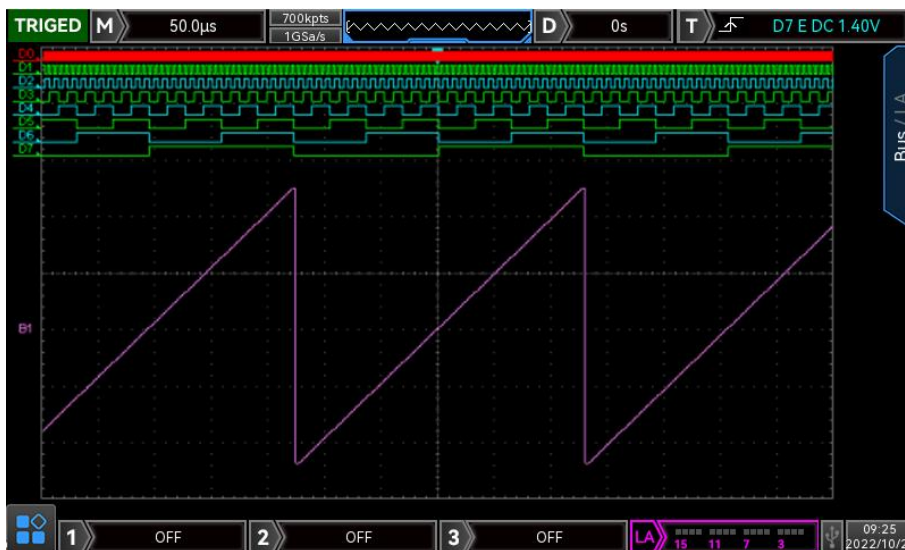

Figure 16-1
- (1) Bus: It can be "BUS1" or "BUS2".
- (2) Bus status: Turn on/off data bus.
- (3) Quick selection: Select the corresponding channel group of BUS1 or BUS2, which can be D0-D7, D8-D15, D0-D15 or None.
- (4) Bit: Select the corresponding channel bit of the bus, which can be D0 ~ D15, CH1 or CH2.
- (5) Bit order: Set the bus bit order, which can select “low to high” (D0 locate in low bit) or “high to low” (D0 locate in high bit).
- (6) Clock: Select any one of channel (D0~D15, CH1, CH2) as the reference clock of bus. Select “NULL” means not set the reference clock.
- (7) Edge type: Set sampling edge type of reference clock, which can be “rising edge, falling edge”.
- (8) Display type: Select display format of data bus, which can be hexadecimal, decimal, binary system, ASCII or figure. In figure display mode, the oscilloscope will display the bus data to the level of the corresponding value in a specific way. It is convenient to observe the changing trend of bus value, as shown in Figure 16-1.
- (9) Shake proof: Turn on/off shake proof function.